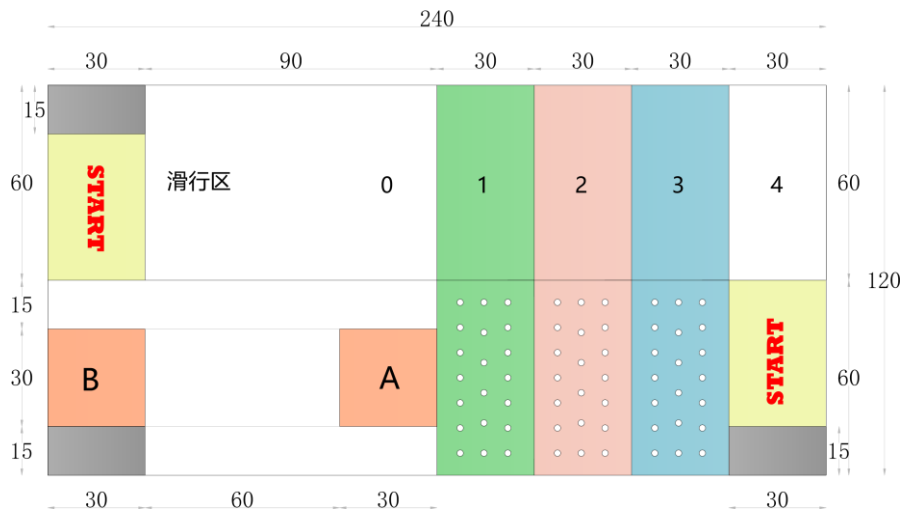

Figure 1 Table Plan
- B. As shown in Figure 1, the length of the playing surface is 2.4 meters and the width is 1.2 meters.